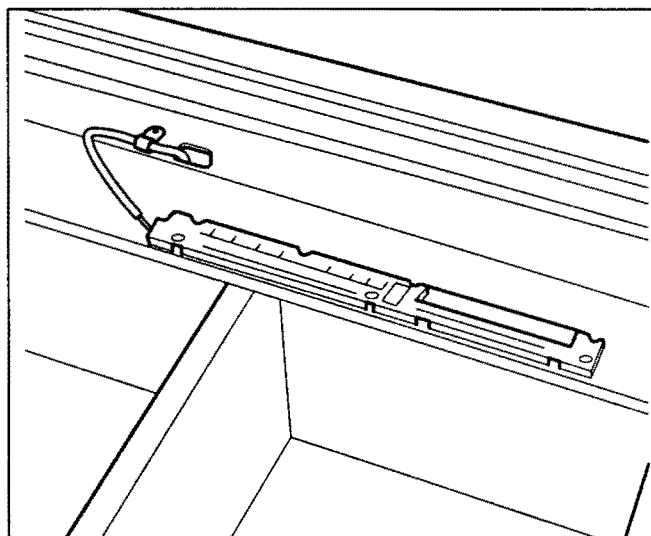

Figure 2-12. Control Panel Power Supply
2. Now disconnect the power supply to the control panel (Figure 2-12).